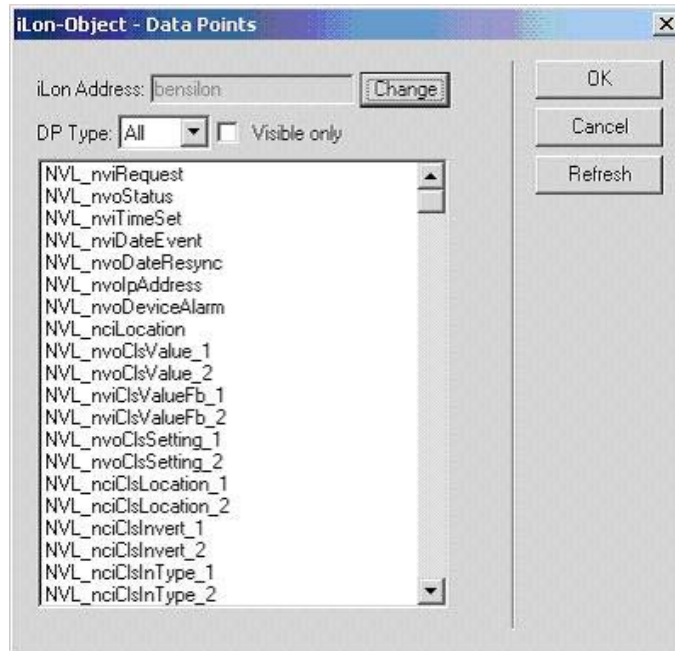

Figure 13.35 Data Points Dialog
2. Click **Select DP**. The dialog shown in Figure 13.35 opens.